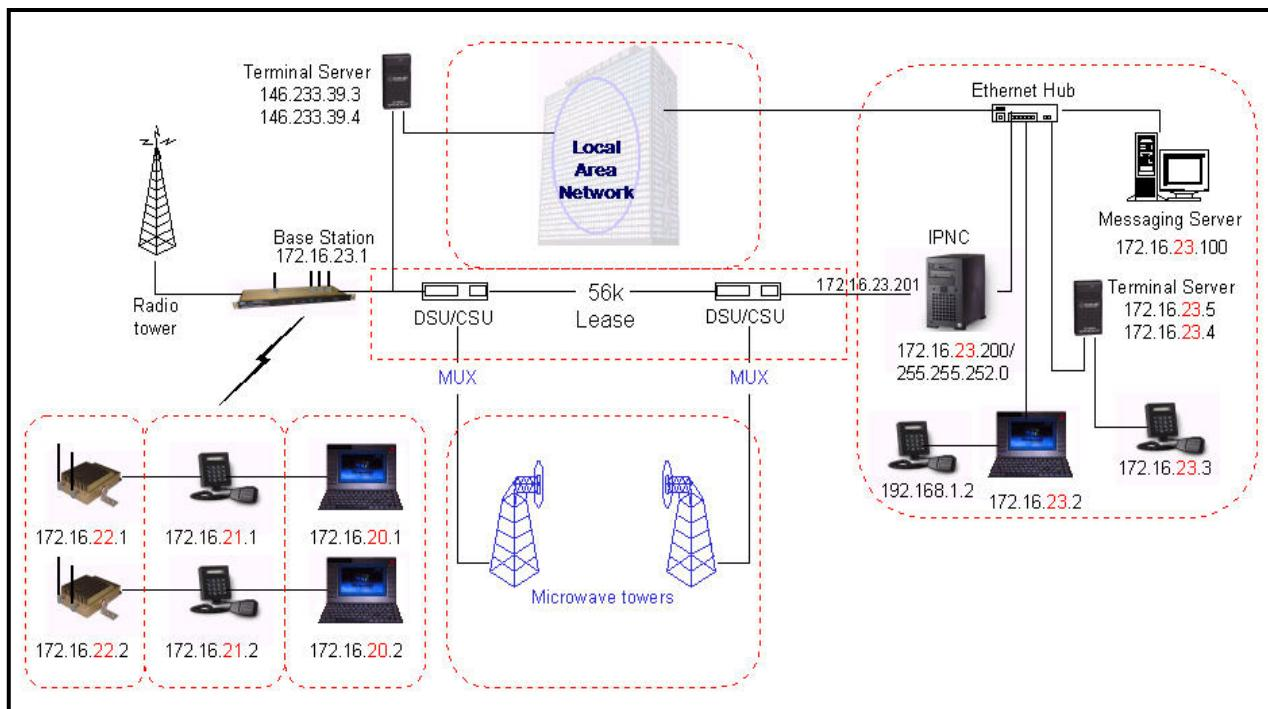

Figure 5: Network Connection to an Existing LAN
Figure 5 depicts network connection to an existing LAN (local area network) inclusive of one (1) IPNC, one (1) base station, and a range of mobile radios, VIUs, mobile computers, and additional components that can interface with the system. This diagram also shows a LAN VIU as well as Terminal Server VIU.